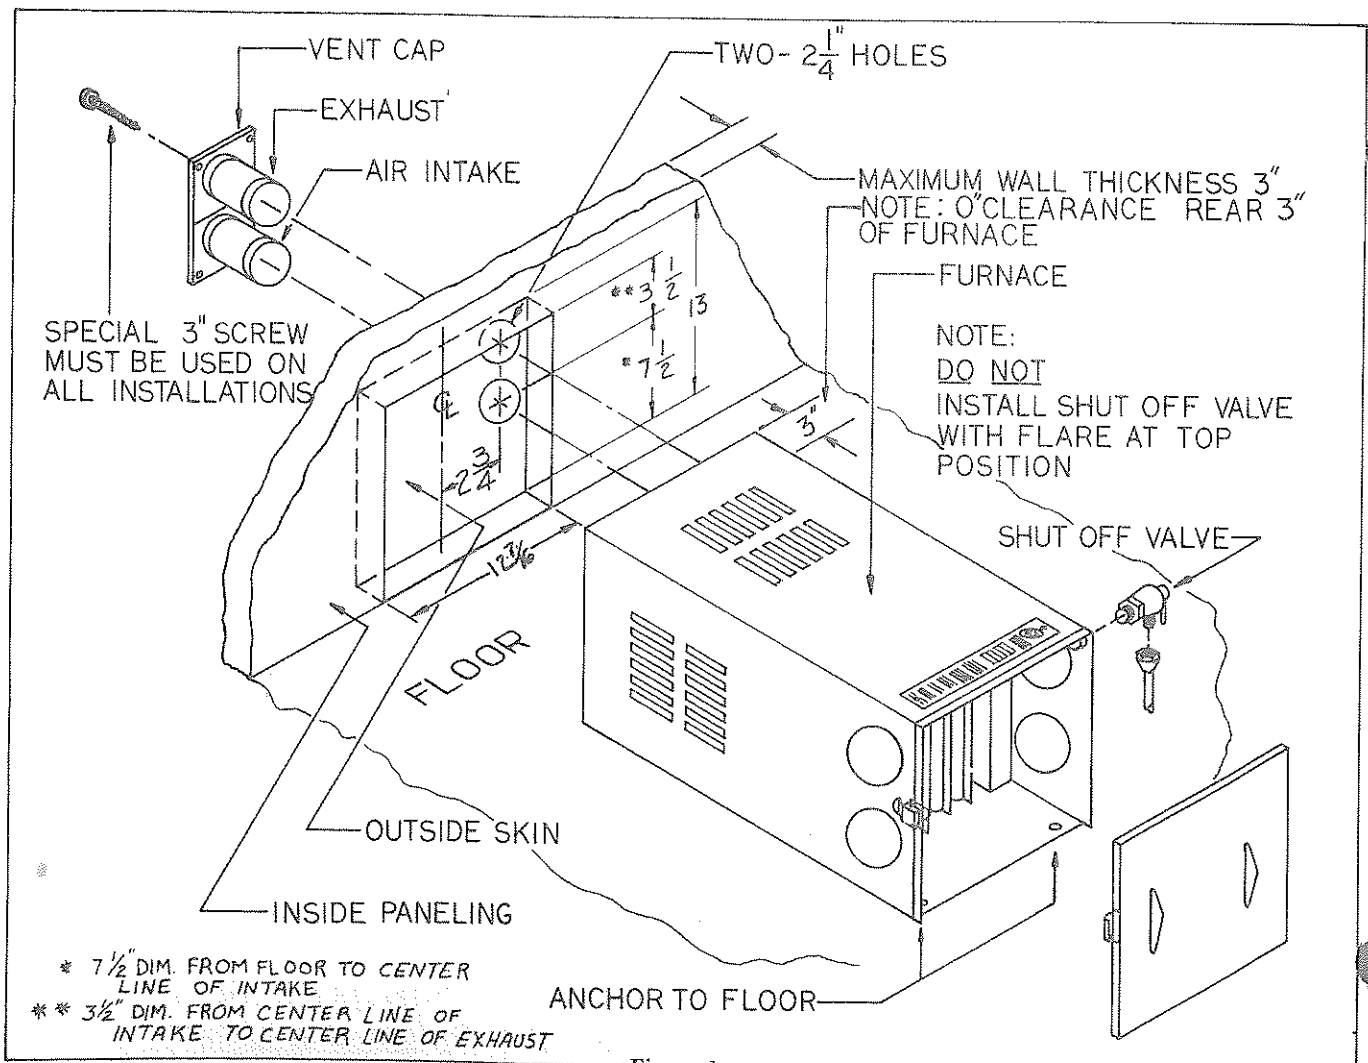

Figure 1
(See Figure 1)
NOTE: Side and top clearances may be 0" for through the wall installations up to a maximum wall thickness of 3". (See Figure 1.)
4-Cut an opening through the inner wall 12 7/16" x 13". This will allow the rear of the furnace to be installed against the outer skin of the coach. (See Figure 1.)
5-Cut two 2 1/4" diameter holes through the outer skin of the coach as shown in Figure 1.
7-Fasten furnace to floor of coach using the two holes provided in the front plenum area of furnace cabinet. (See Figure 1.)
4-Locate center lines for exhaust and intake tubes as shown in Figure 1. Cut two 2 $\frac{3}{8}$ " diameter holes through coach wall for exhaust and intake. (See Figure 2.)
6-Fasten furnace to floor of coach using the two holes provided in front plenum area of furnace cabinet. (See Figure 1.)
1-Locate center lines for exhaust and intake tubes as shown in Figure 1.
7-Fasten furnace to floor of coach using the two holes provided in the front plenum area of the furnace cabinet. (See Figure 1.)
- 1-Be sure that the manual shut-off valve is outside of the furnace jacket and easily accessible. (See Figure 1.)
- E-Fasten furnace to floor of coach using two holes provided in front plenum area of furnace cabinet. (See Figure 1.)